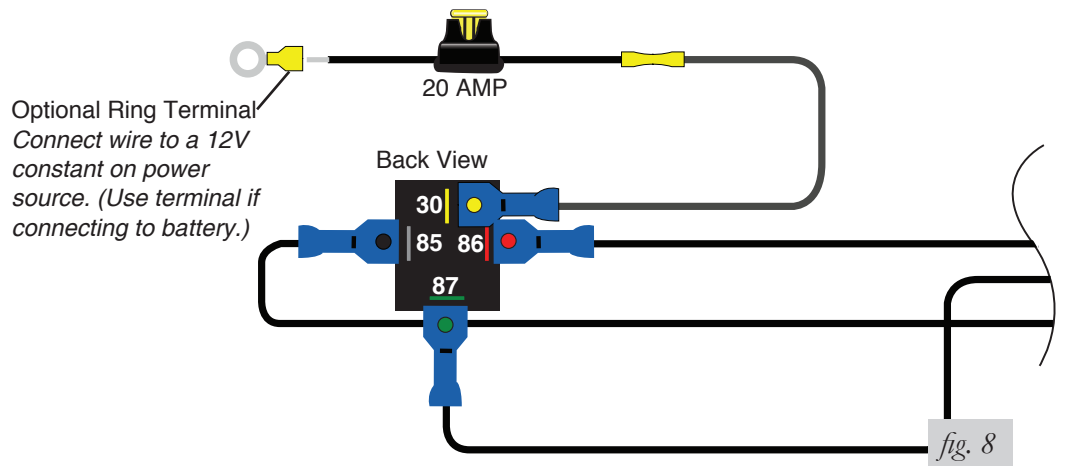

fig. 8
- Using a butt connector, attach the 12 gauge wire from the terminal 30 on the back of the relay to one end of the 20 amp fuse holder (fig. 8).
- If choosing to use the ring terminal, attach it to the other end of the fuse wire (fig. 8).